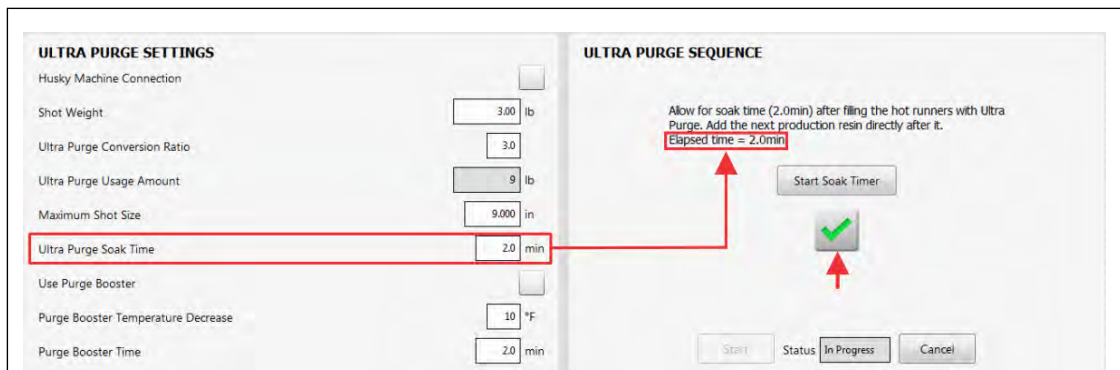

Figure 13-14 Ultra Purge Soak Time Completes
19. When the soak timer has completed, touch the check mark button to continue (Figure 13-14).